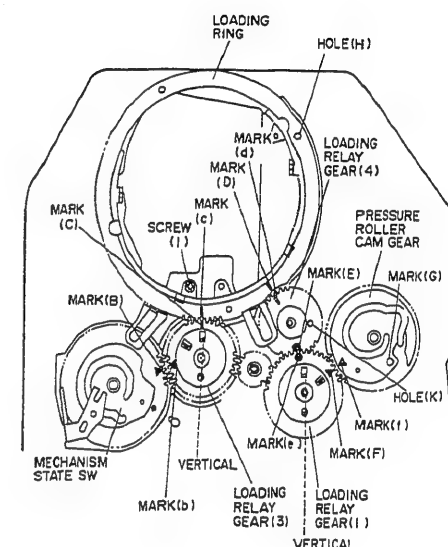

Fig. 3-2
3-2. Loading Gears and Loading Ring (Figs. 3-2, 3-3)
- 1) Align the markings of the loading ring and gears as shown in Fig. 3-2.
- 1) Set the upper and lower loading rings to the state shown in Fig. 3-2. (Watch the guide roller fixing section.)
- 2) Move the upper and lower loading rings so that holes (H) overlap each other.
- 3) If holes (H) overlap each other, the phase of the loading ring is correct.
- 4) If holes (K) overlap each other, the phase of the loading relay gear (4) is correct.
3-2. Pull-out Pole and Impedance Roller Height Check/Adjustment (Figs. 3-2, 3-3)
<p>(A) = (B)</p> <p>Fig. 3-2</p>